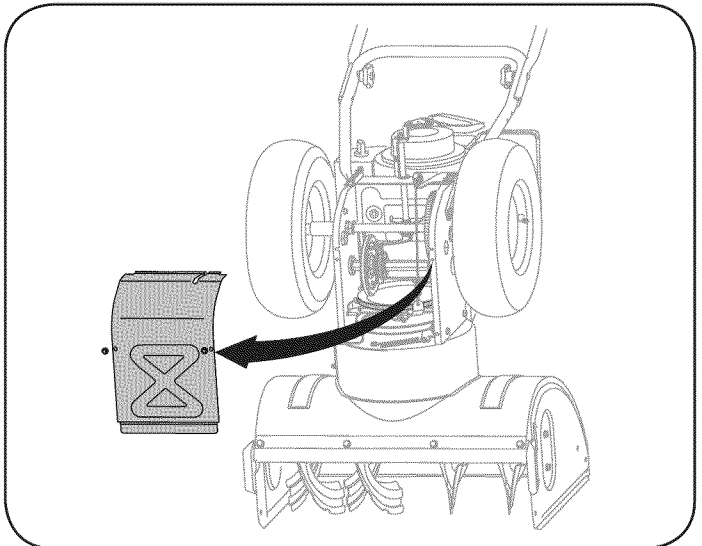

Figure 24
5. Remove the frame cover from the underside of the snow thrower by removing four self-tapping screws which secure it. See Figure 24.
- Remove the frame cover from the underside of the snow thrower by removing four self-tapping screws which secure it. Refer to Figure 24.